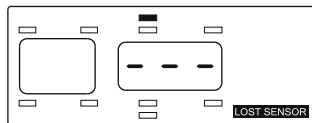

Figure 4-3
The Doran 360RV monitor is capable of monitoring for a lost sensor signal (see Figure 4-3). If the monitor is unable to receive a signal from a sensor for more than 18 minutes an alarm will be displayed for that sensor. This does not mean that the sensor is missing, just that a signal was not able to get to the monitor. This could be from other signals interfering with the sensor signal, interference from structures, or a poor signal. By FCC rules we must allow signals from other sources to interfere with our signals. The Doran 360 series sensors, as well as all the other TPMS systems on the market are not allowed to interfere with other radio frequency (RF) signals.